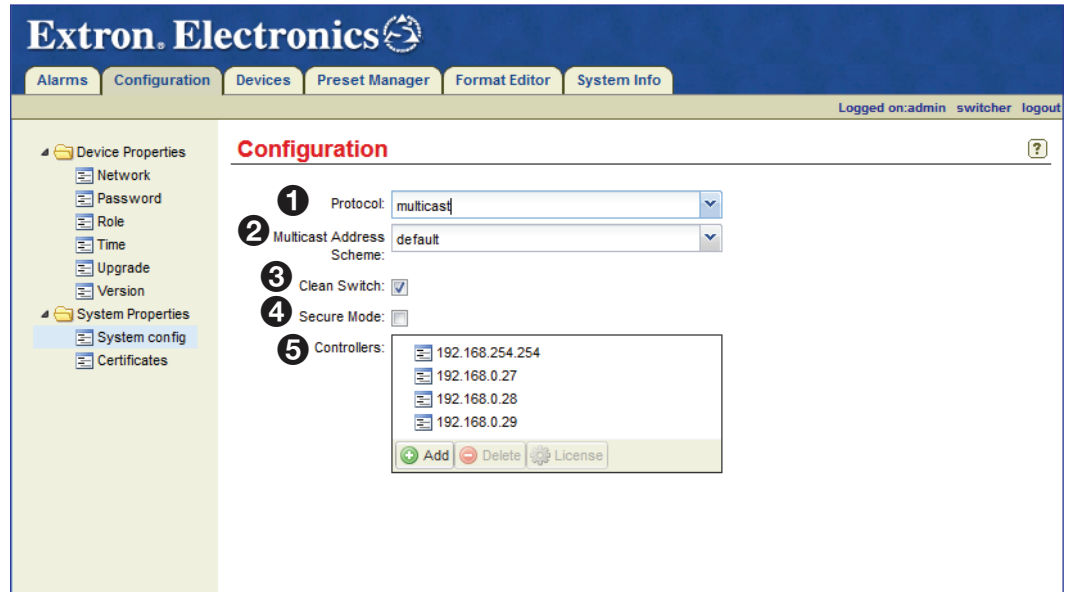

Figure 20. System Config Page
The **System Config** page (see figure 20) is used to configure the following sets of control options.
- ③ **Clean Switch (VN-Matrix 2xx only)** — The clean switch feature (see figure 20 on page 28) allows glitch free transitions when switching between decoded streams. Select the check box to activate the clean switch option or deselect to deactivate the clean switch option. Click **Apply Changes**, located at the lower right corner of the Web page, to save the setting.
- ④ **Secure Mode** — This feature (see figure 20) allows the EC 200 to run in a secure mode. When selected, the Web UI can only be contacted using HTTPS. The HLI server can only be contacted using SSH.
- ⑤ **Controllers** — This field (see figure 20) adds the IP addresses of all singleton and service (cluster) controllers. This field is used to keep the VNM EC 200 that is logged into aware of the devices it is controlling and the devices that are managed by the other controllers in the system. The field also allows streaming between devices managed by other controllers, as well as editing configuration options of devices connected to other controllers.